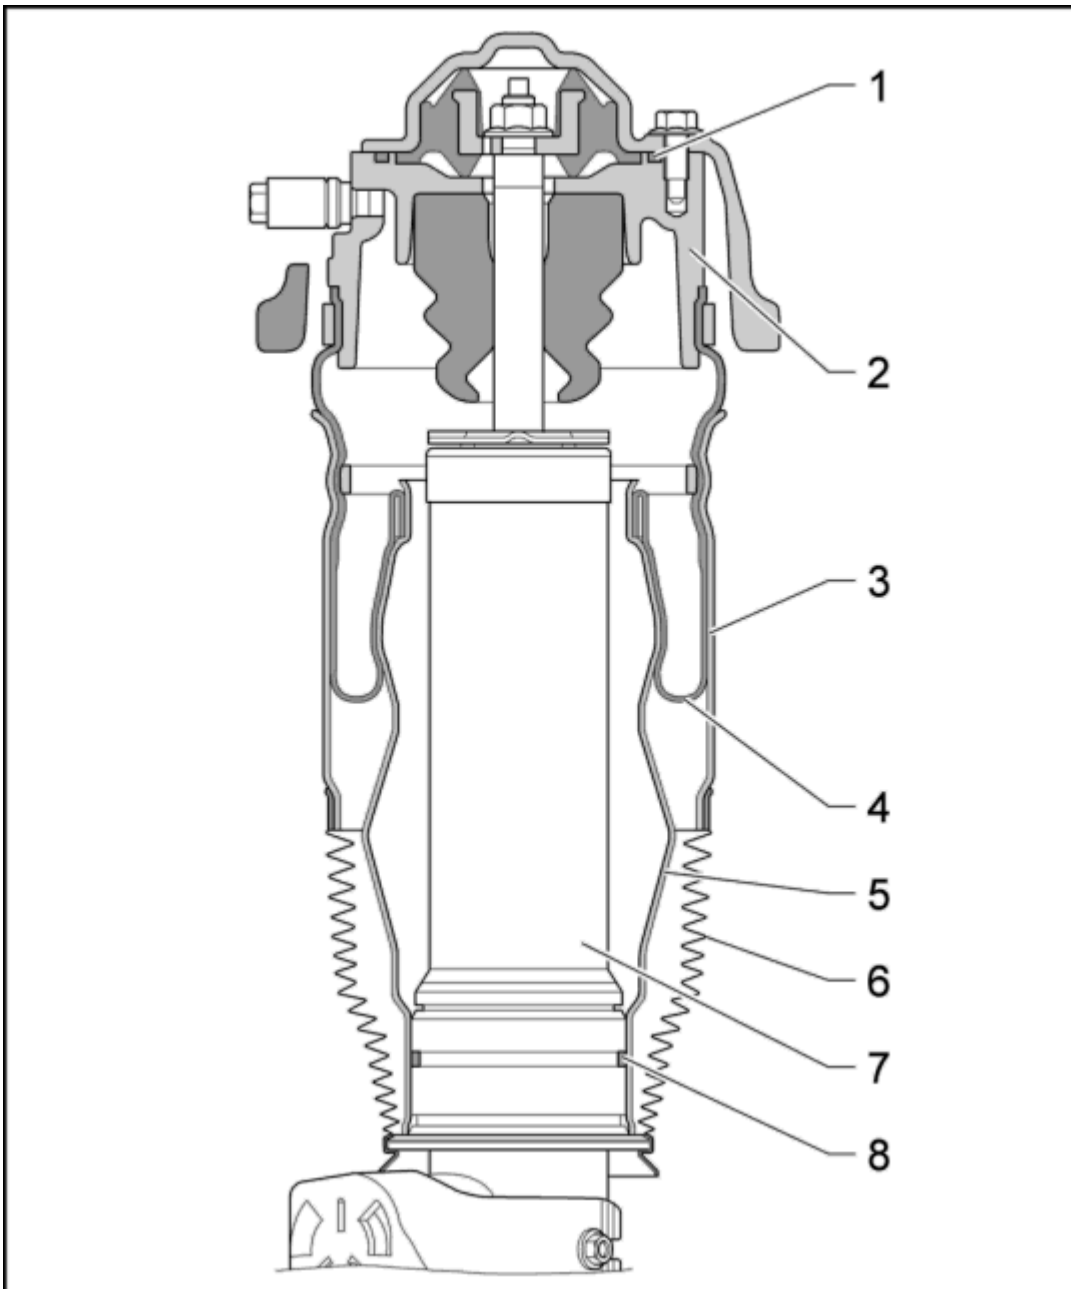
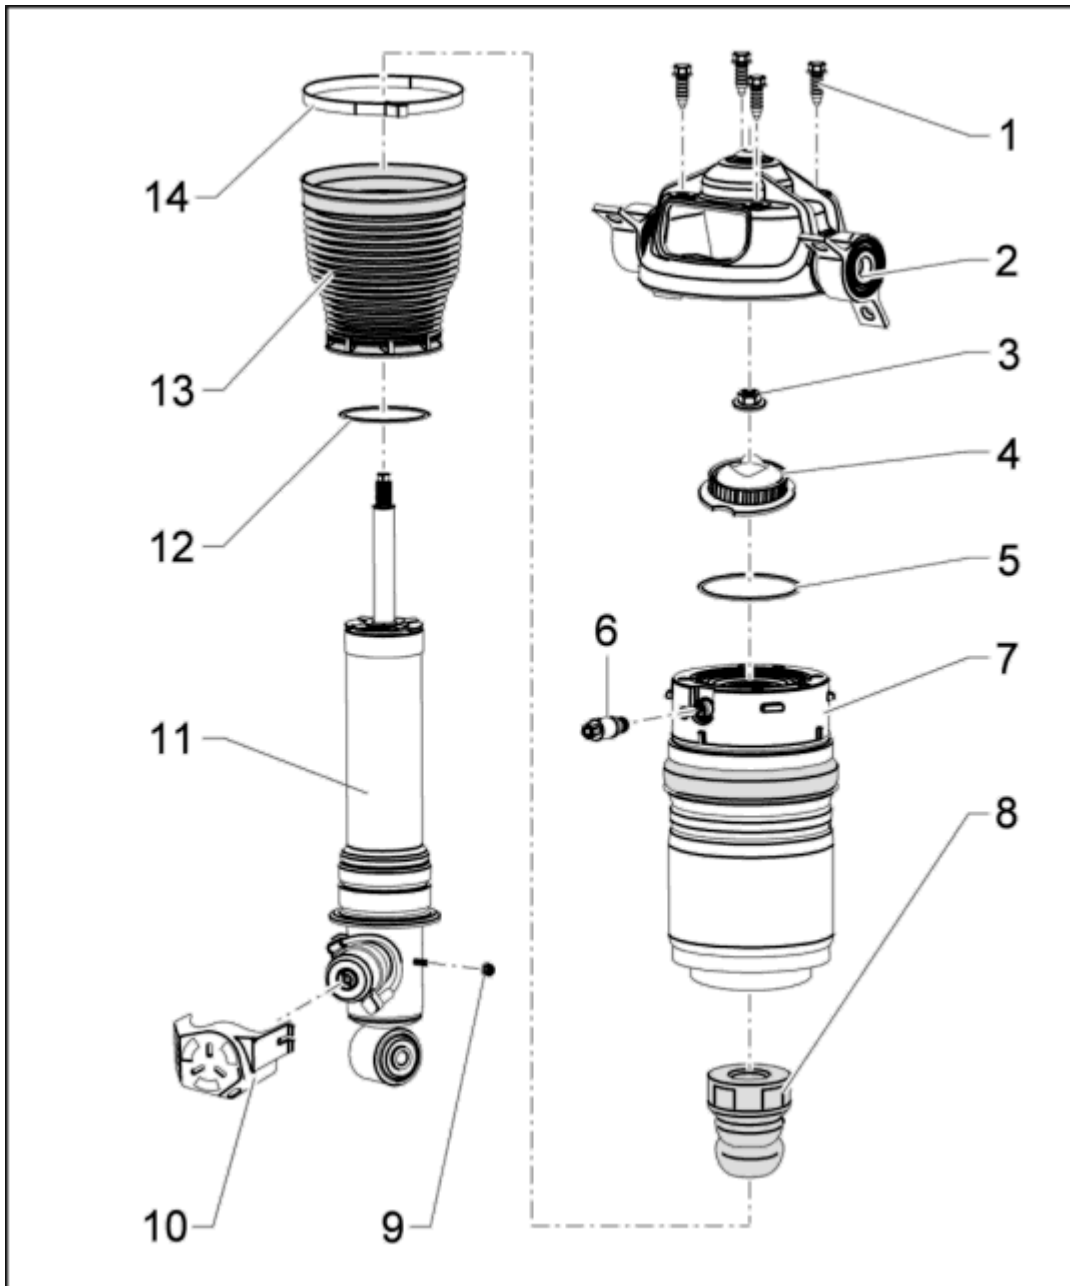

Fig. 19: Rear Air-Spring Strut
Fig. 20: Component Arrangement Of Rear Air-Spring Strut
NOTE: **The components of the air spring -7- (figure shows component arrangement of rear air-spring strut), Items -2; 3; 4; 5- (figure shows rear air-spring strut), cannot be disassembled. See Fig. 20, Fig. 19.**
- **Always replace the complete air spring -7- (figure shows component arrangement of rear air-spring strut)! See Fig. 20.**